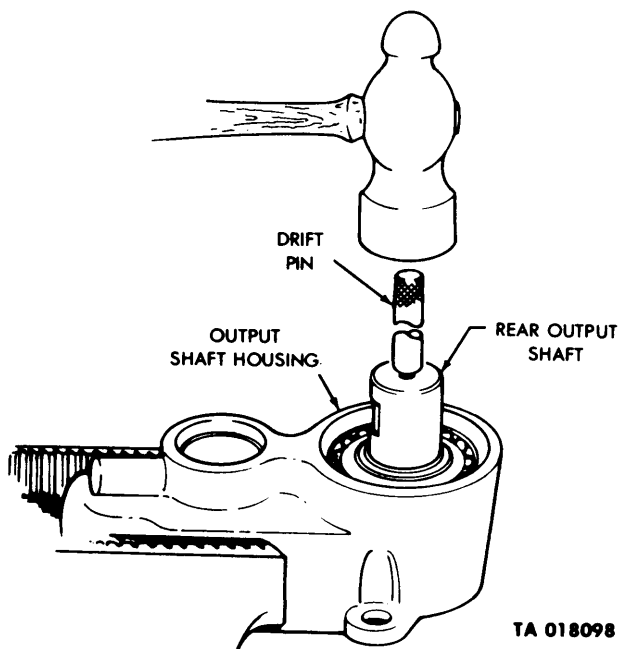

Figure 5-24. Removal of Rear Output Shaft and Sliding Clutch Sleeve.
(2) Place the rear output shaft housing in a vise. Using a soft drift pin, drive the rear output shaft from the housing and remove the sliding clutch sleeve. (See fig. 5-24.)